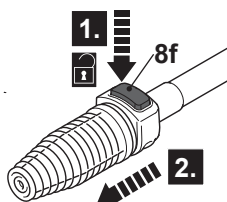

Fig. 7
- > Press the release button (8f) (Fig. 7, step 1) and remove the nozzle (step 2).